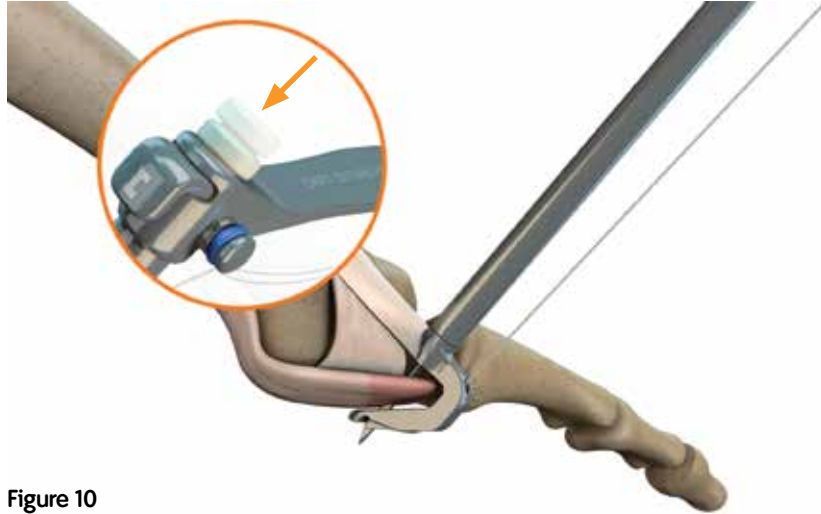

Figure 10
6. Hold the DART Suture Passer in place, fully depress the spring-loaded needle, and slowly release the needle to engage the suture (Figure 10).